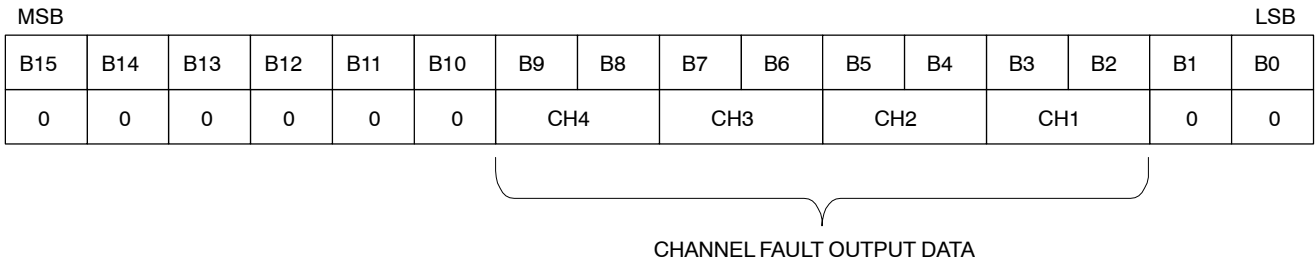

Figure 12. SPI Output Data
The 16-bit data sent (SO) by the NCV7512 is encoded 8-bit fault information. The upper 6 bits are forced to zero and lower 2 bits are forced to zero (Figure 12).
Figure 12 shows the gate driver block diagram.